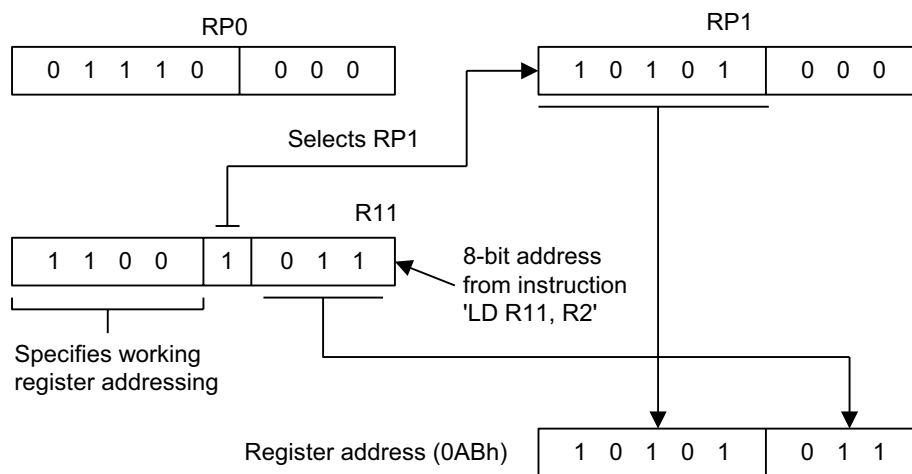

Figure 26. 8-Bit Working Register Addressing Example
Figure 26 shows an example of 8-bit working register addressing. The four high-order bits of the instruction address (1100b) specify 8-bit working register addressing. Bit 4 (1) selects RP1 and the five high-order bits in RP1 (10101b) become the five high-order bits of the register address. The three low-order bits of the register address (011) are provided by the three low-order bits of the 8-bit instruction address. The five-address bits from RP1 and the three address bits from the instruction are concatenated to form the complete register address, 0ABh (10101011b).